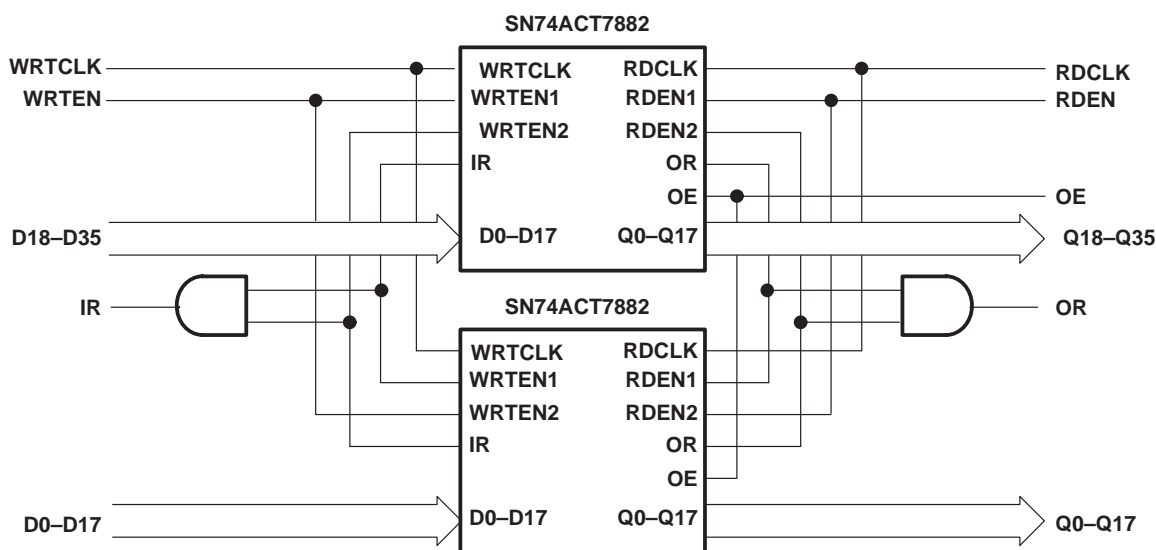

Figure 9. Word-Width Expansion: 2048×36 Bits
Figure 9 is an example of two SN74ACT7882 devices in word-width expansion. Width expansion is accomplished by simply connecting all common control signals between the devices and creating composite IR and OR signals. The almost-full/almost-empty (AF/AE) flag and half-full (HF) flag can be sampled from any one device. Depth expansion and width expansion can be used together.